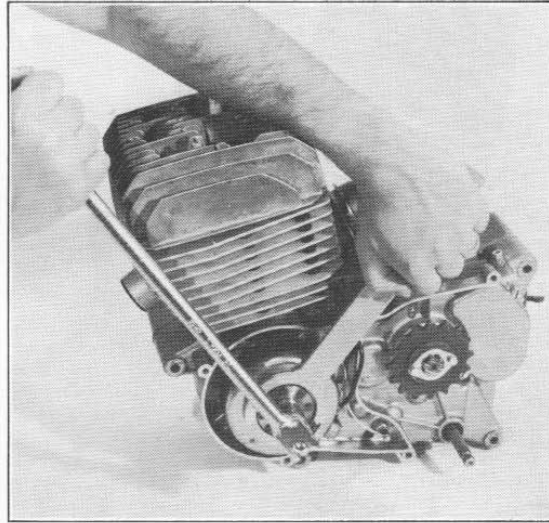
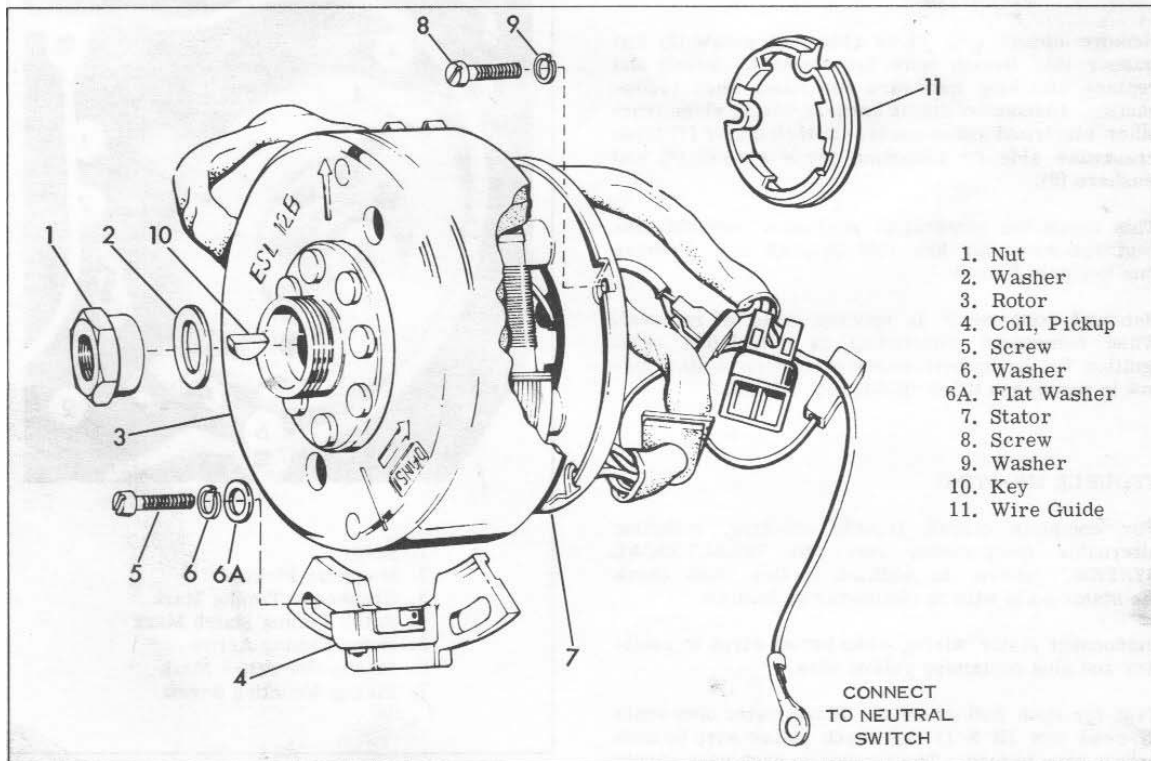

Figure 5.8. Removing Nut Using Tool to Hold Alternator
Figure 5.7. Alternator Components - Exploded View
Remove nut (1), Figure 5.7, as follows. Place round pegs of tool, Part No. 97352-71MA, into holes in rotor (3) housing as shown in Figure 5.8 so that rotor can be held and prevented from turning. Using an impact wrench, remove the nut. If an impact wrench is used, holding tool may not be necessary. Remove washer (2) when nut is off.